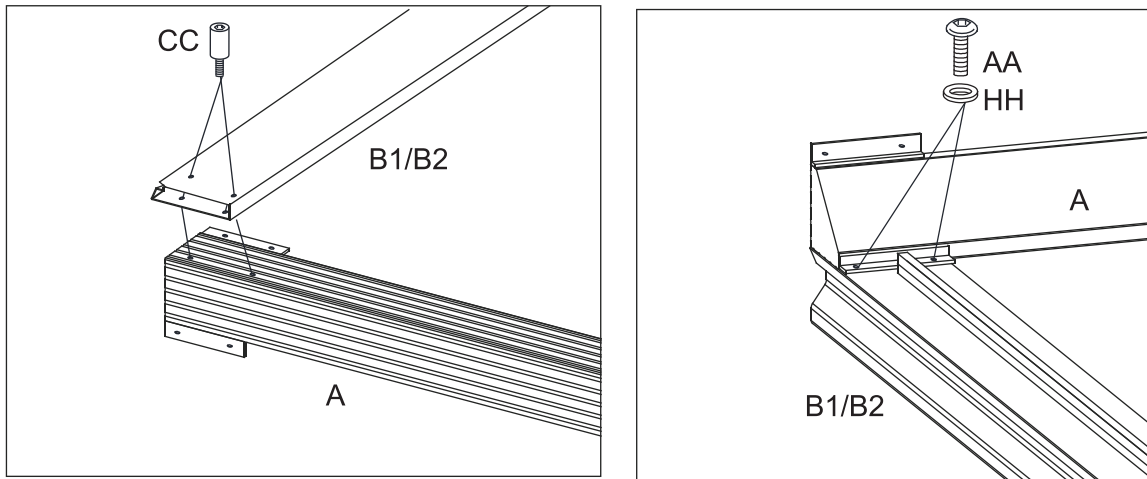

Figure 4.1
4.1: Attach Long Lintels (B1 and B2) to end of Corner Posts (A) first with Bolts (CC) then with Bolts (AA) and washer (HH). Tighten all Bolts. See Figure 4.1.